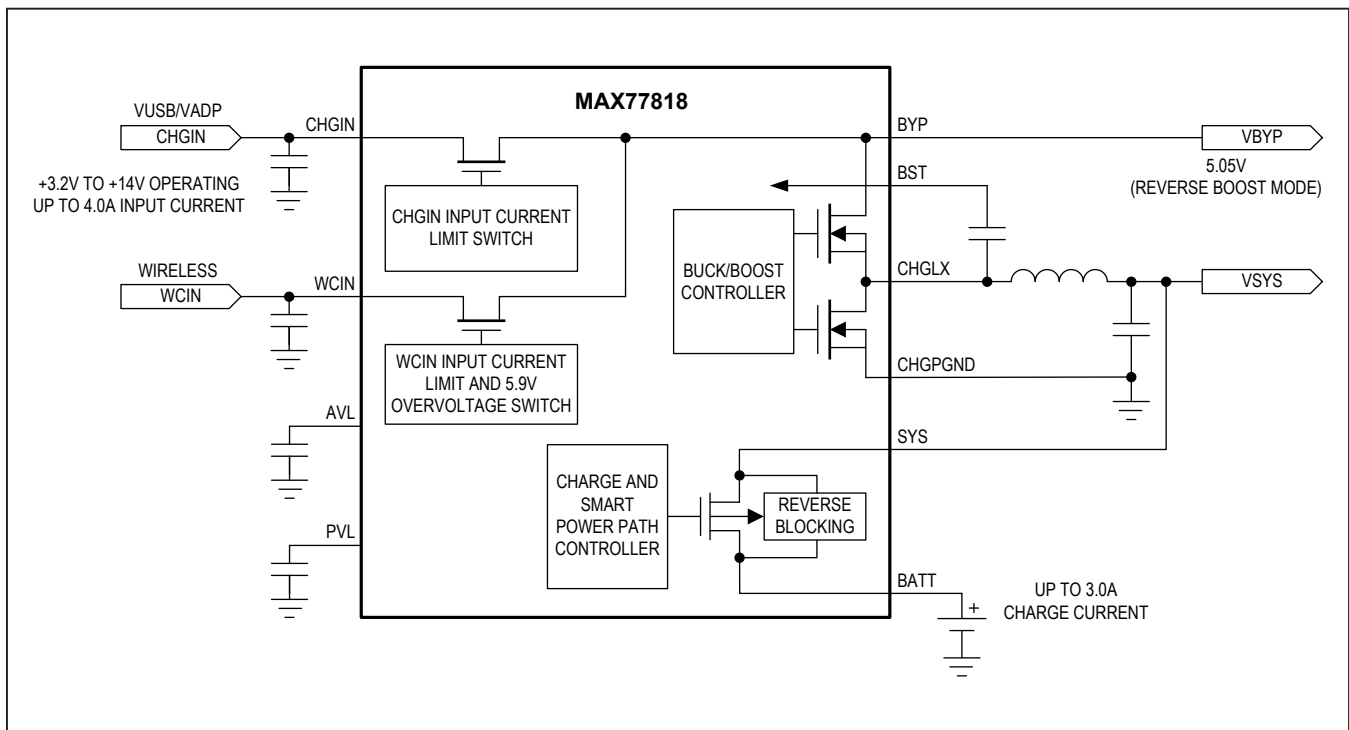
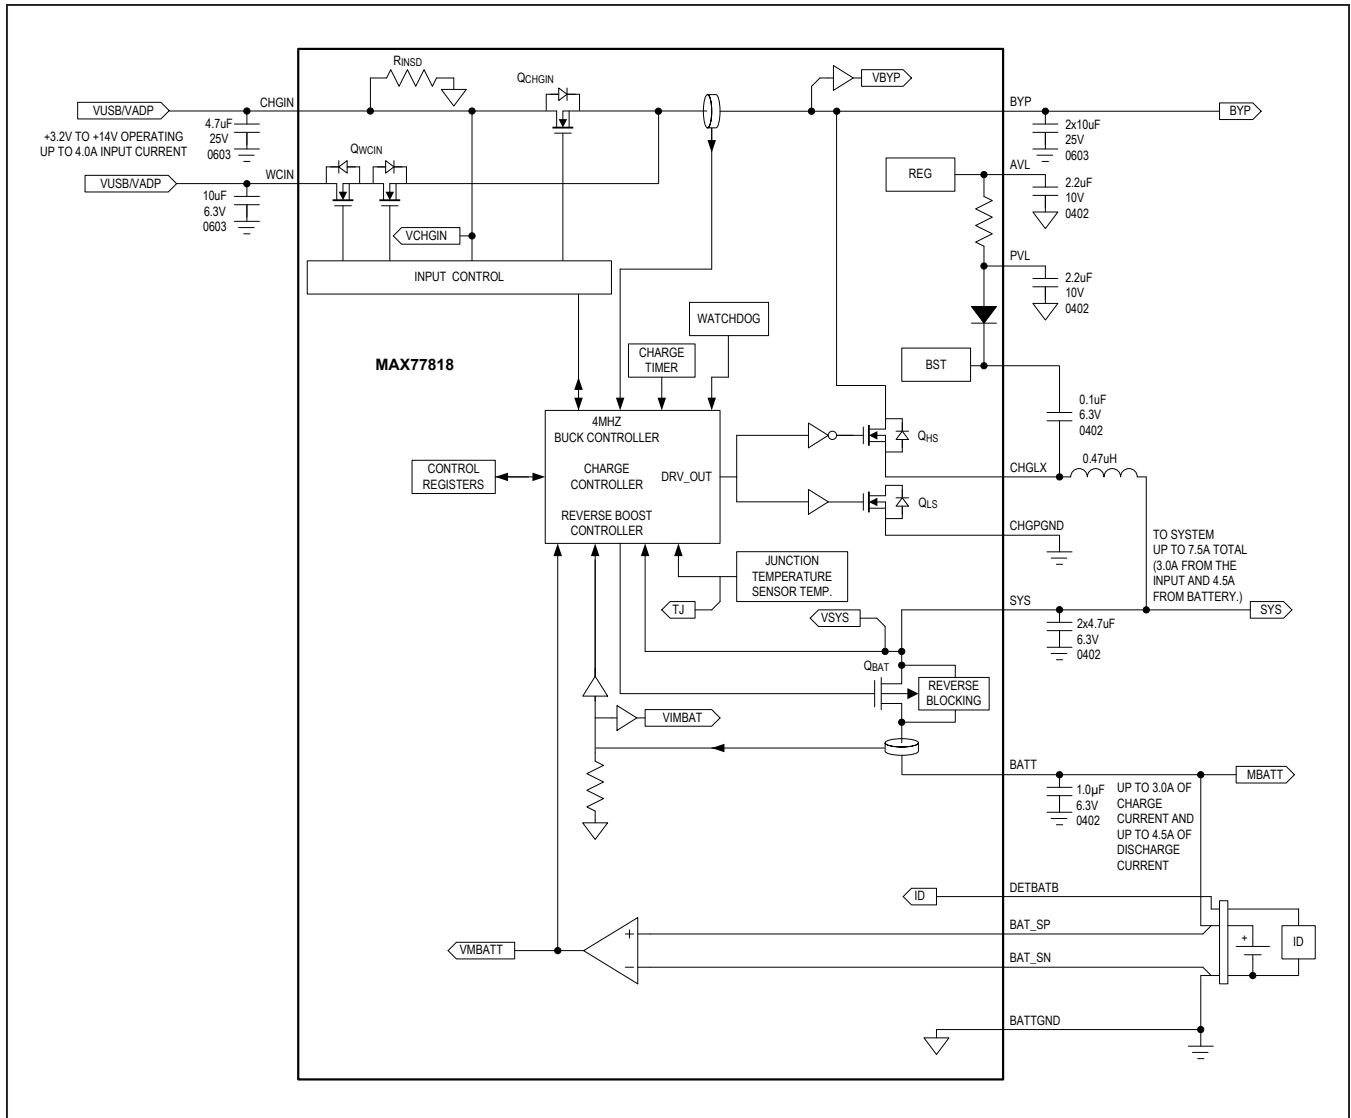

Figure 1. Simplified Functional Diagram
Figure 2. Main Battery Charger Detailed Functional Diagram
The MAX77818 includes a full-featured switch-mode charger for a one-cell lithium ion (Li+) or lithium polymer (Li-poly) battery. As shown in Figure 2, the current limit for CHGIN input is independently programmable from 0 to 3.0A in 33.3mA steps allowing the flexibility for connection to either an AC-to-DC wall charger or a USB port. CHGIN current limit default is set between 100mA and 500mA with 500mA being the programmed default.
Figure 1 shows a simplified arrangement for the smart power selector's power steering switches. Figure 2 shows a more detailed arrangement of the smart power selector switches and gives them the following names: QCHGIN, QHS, QLS, and QBAT.
**Input Switch:** QCHGIN provides the input current limit. The input switch is completely on and does not provide forward blocking. As shown in Figure 2, there are SPS control loops that monitor the current through the input switches as well as the input voltage.